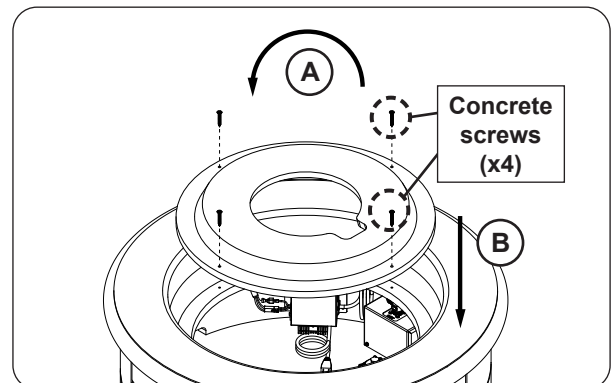

Fig. 30-4 Flip and install refractory panel
2. Flip the refractory panel and align the pilot holes. Re-install the 4 concrete screws (see Fig. 30-4).